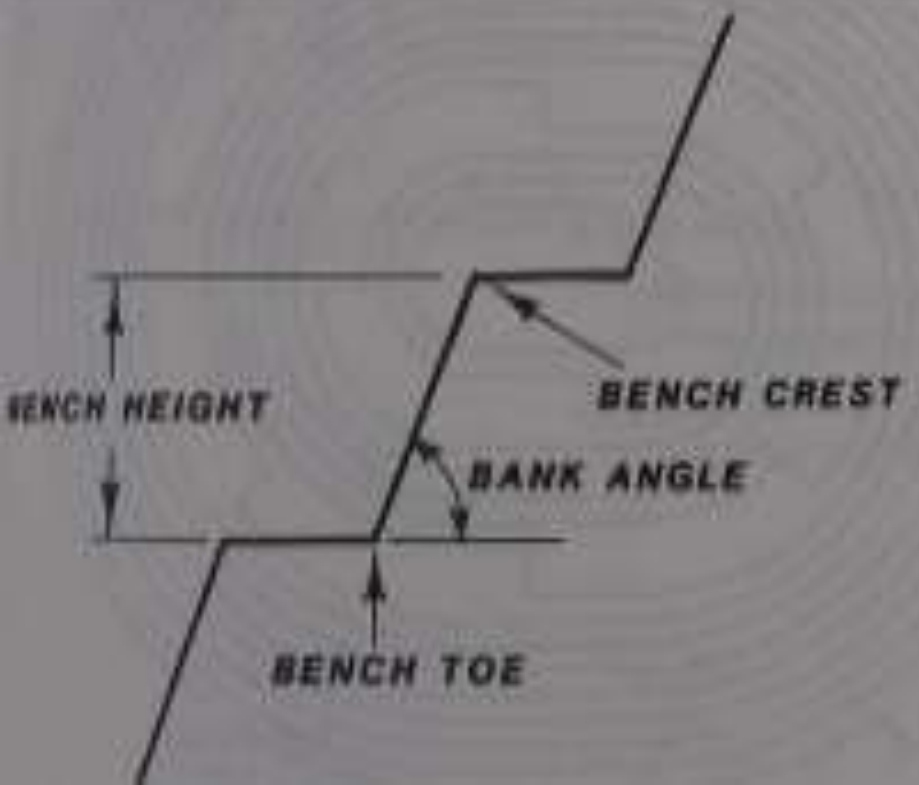

Fig.1: Bench cross sections
- ❑ The elements of a bench are illustrated in Fig. 1.